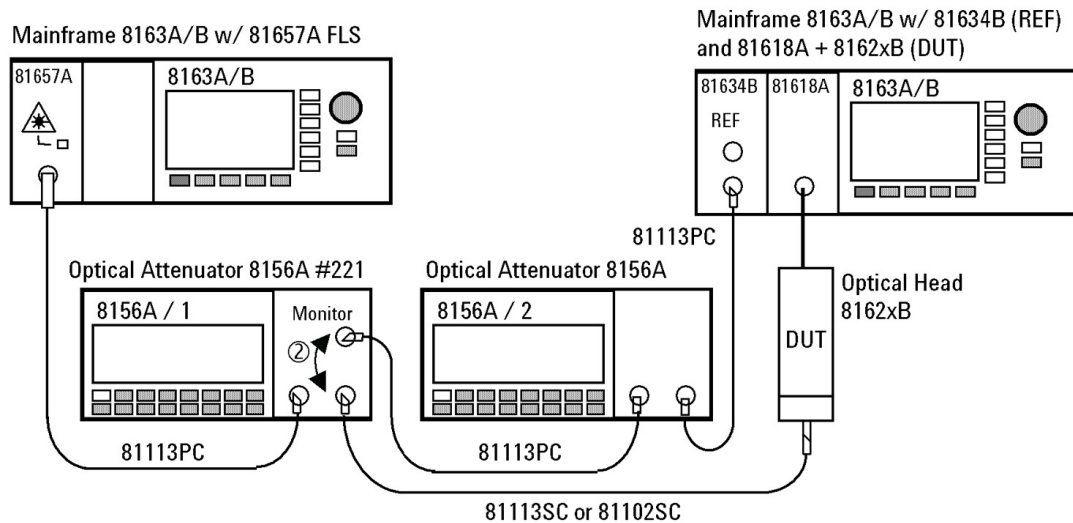

Figure 3 Measurement Setup for Power Linearity
- 3 Setup the equipment as shown in Figure 3 . Disable both attenuators and enable the laser source, where the source wavelength is chosen to 1550 nm. If you are using the 81657A, move to the wavelength parameter, [W], press *Enter*, select the longer wavelength source (1550 nm nominally), and press *Enter*.